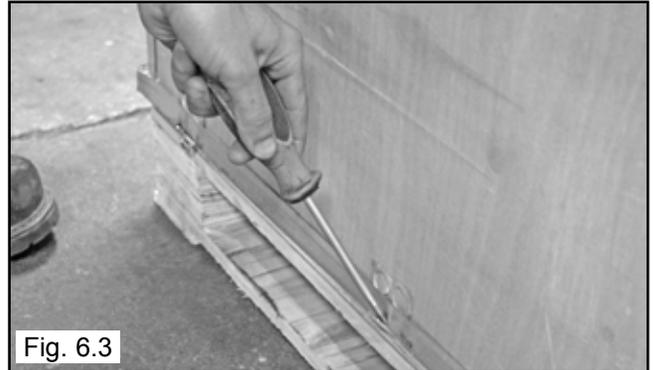

Fig. 6.3
1. Carefully remove the crating fasteners. Using a lifting Device lift the crate up and off the Tire change or disassemble the Crate panel by Panel. Remove packing materials and all skid and pallet fasteners. (See Fig 6.3)